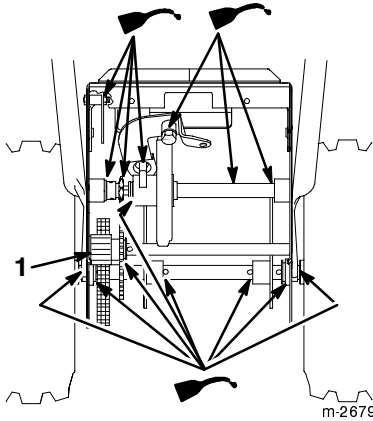

Figure 29
5. Lightly lubricate the snowthrower with light oil as shown in Figures 29 and 30.
7. Lightly grease the axle gear (Fig. 29).